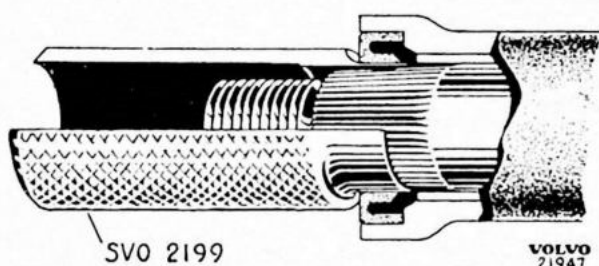

Fig. 29. Fitting the sector shaft.
5. Press in the sector shaft seal ring. Use tool SVO 2199 as shown in fig. 29 and fit the sector shaft in the housing.